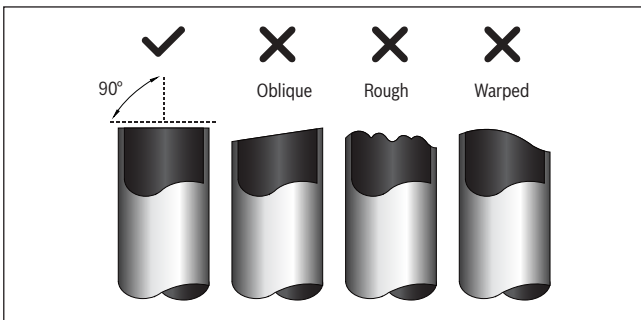

Fig. 37.
1. Make sure that the pipe is cut at a perfect 90° angle. Refer to Fig. 37 for examples of bad cuts